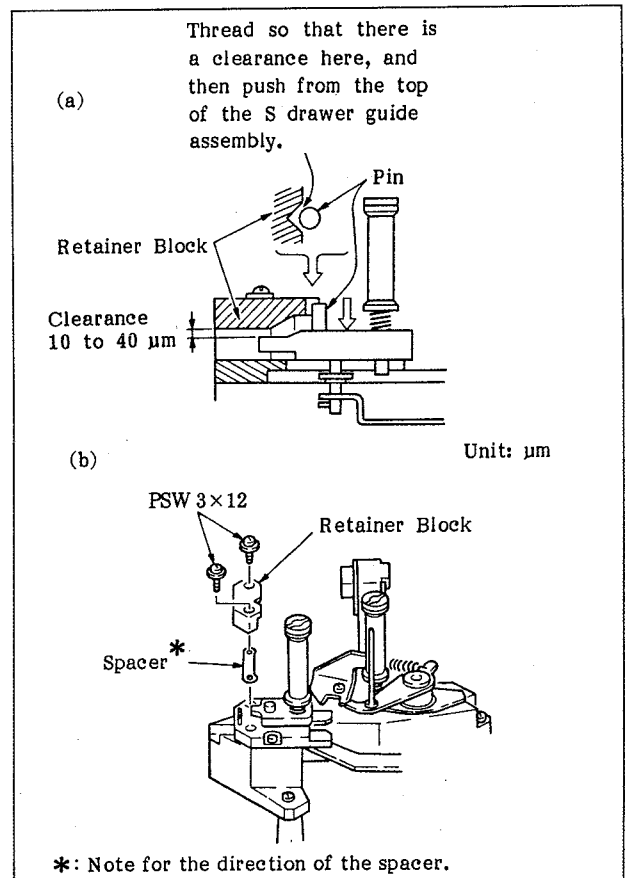

Fig. 6-50 Adjustment of the Clearance between the Retainer Block and the S Drawer Block
5. Set in the threading condition so that there is a clearance between the retainer block and the pin on the S drawing of Figure 6-50(a).
6. Check that clearance A between the S drawer block and the retainer block, shown in Fig. 6-50 (a), is 10 to 40µm by using the following spacers. If it is not, adjust it by replacing the spacer, shown in Fig. 6-50, with one of a different thickness.